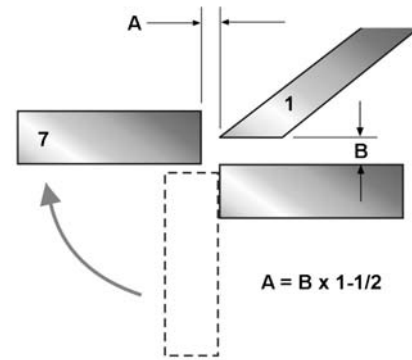

Figure 3
The bending leaf blade (7) must be adjusted for proper clearance, or “setback” (A, Figure 3) based on material thickness (B, Figure 3). Generally, setback for material within four gauges of capacity should be twice the thickness of material. For lighter gauges, use 1-1/2 times the material thickness. Consult a machinery handbook for bend allowances.